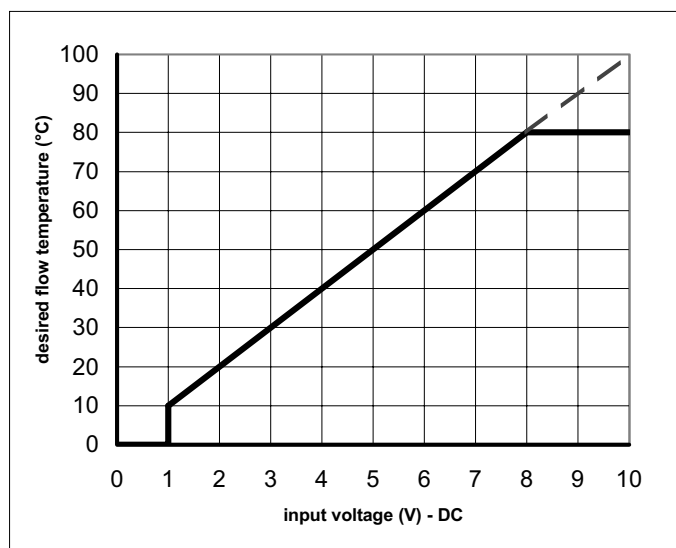

Fig. 18 Temperature control via analog (0-10 Volt) signal
- Temperature based (20 to 90 °C) set the **[X]** value of the boiler control operation parameter **[R]** to **[4]**. To set the ratio between voltage and the desired flow temperature, see par. 6.6.6 and Fig. 18.